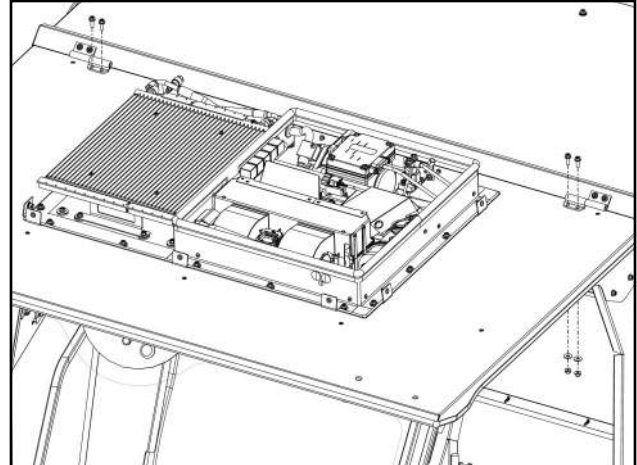

Fig. 3.2 Re-Install Hinge Sleeves
- 3.2 Re-install hinge sleeves on the front canopy (roof) with existing hardware and plastic washers included in alternator kit. Place plastic washers between flanged nuts and headliners as shown on figure 3.2. Do not fully tighten.